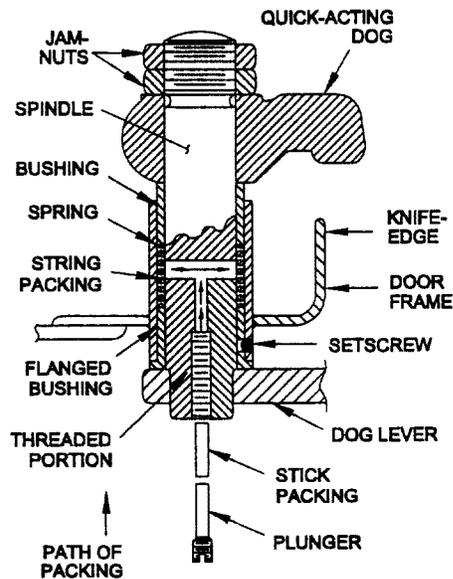
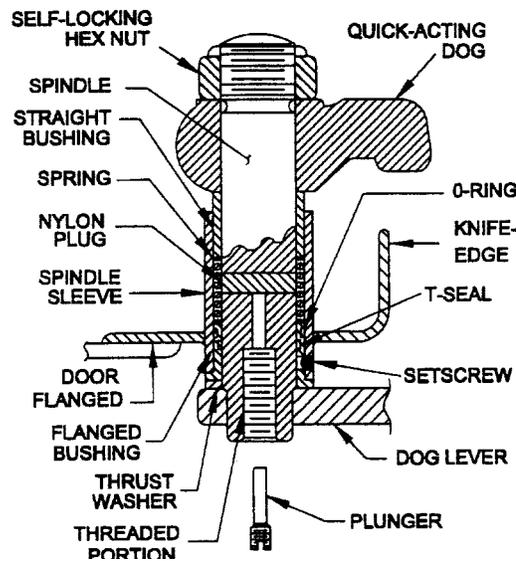
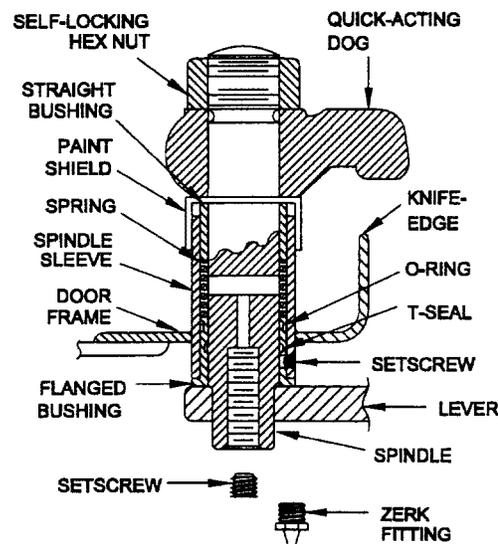

Figure 2-7. Quick-Acting Door Dog Assembly (Cross Sectional View)
Figure 2-7A. Quick-Acting Door Dog Lever Assembly (Cross Sectional View) Modified by MACHALT 167-31004 (ECP-444)
Figure 2-7B. Quick-Acting Door Dog Assembly (Cross Section View) Modified by MACHALT 167-31010 (ECP-526)
- g. Inspect each dog assembly. Ensure that the straight bushing is firmly seated against the back of the dog and is free of dirt, rust, and paint. Ensure the flanged bushing is firmly seated against the end of the dog sleeve and is secured in place by its dog point setscrew. See figure 2-7. Setscrews are often painted over and may be difficult to locate. Remove paint as necessary to inspect for loose, missing, or broken setscrews. For self-lubricated bushings, a CRES thrust washer should be installed between the dog lever and the face of the flanged bushing. See figure 2-7A.
is jammed or stuck in the sleeve, it will have to be removed, and the interior of the sleeve cleaned out and lubricated, to ensure a free sliding fit of the bushing in the spindle sleeve. See figure 2-7, figure 2-7A, and figure 2-7B.